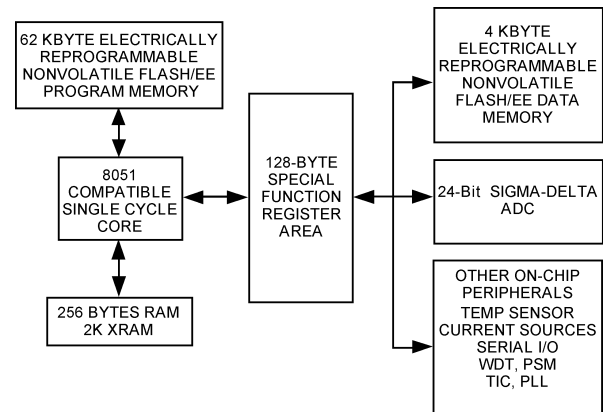

Figure 5. Programming Model
(SFRs) The SFR space is mapped into the upper 128 bytes of internal data memory space and accessed by direct addressing only. It provides an interface between the CPU and all on chip peripherals. A block diagram showing the programming model of the ADuC847 via the SFR area is shown in Figure 5. All registers except the Program Counter (PC) and the four general-purpose register banks, reside in the SFR area. The SFR registers include control, configuration, and data registers that provide an interface between the CPU and all on-chip peripherals.